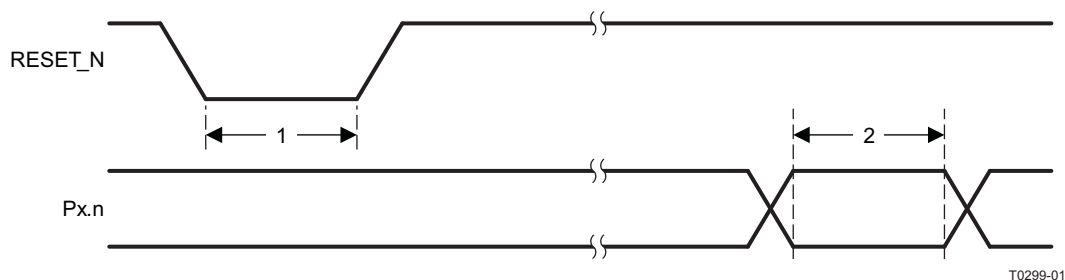

Figure 2. Control Input AC Characteristics
| RESET_N low duration | See item 1, Figure 2. This is the shortest pulse that is recognized as a complete reset pin request. Note that shorter pulses may be recognized but do not lead to complete reset of all modules within the chip. | 1 | | | μs |
| Interrupt pulse duration | See item 2, Figure 2. This is the shortest pulse that is recognized as an interrupt request. | 20 | | | ns |